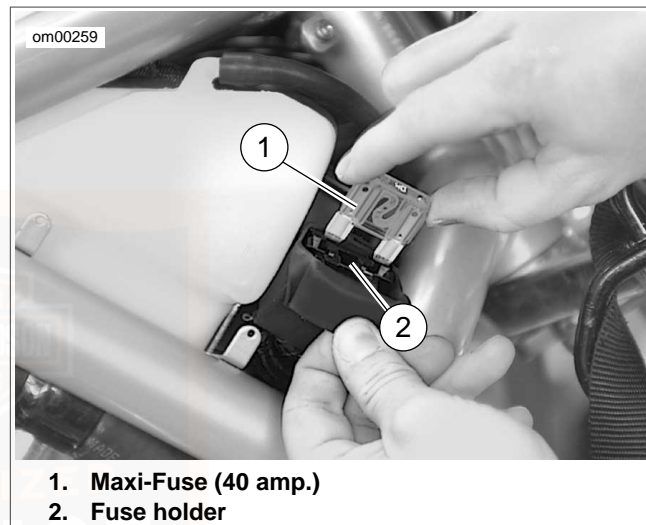

Figure 64. Maxi-Fuse Replacement: VRSC Models
1. See Figure 64. Remove the fastener, carefully lift the side cover off the mounting tabs and set it aside.